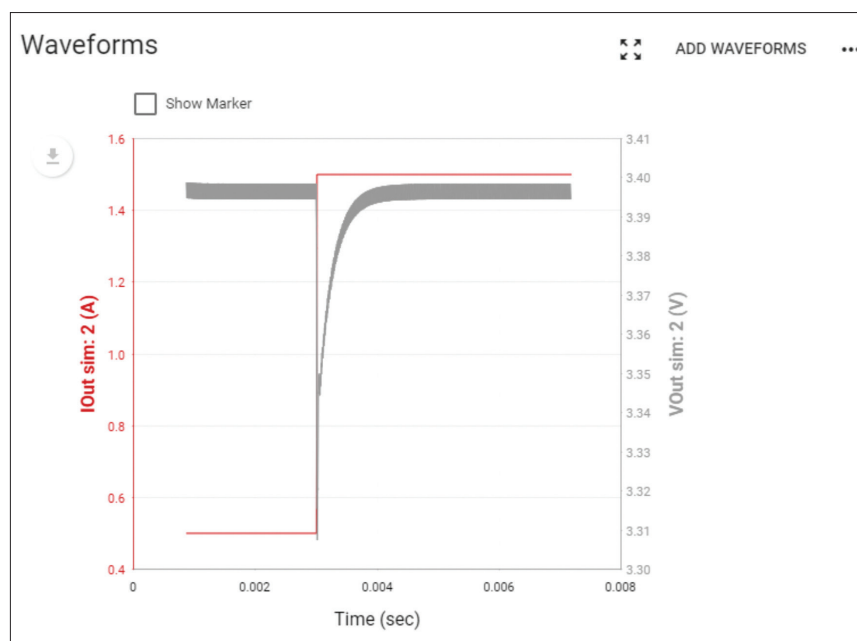

Figure 17.
8. After the end of simulation,  $V_{OUT}$  and  $I_{OUT}$  are plotted as shown in **Figure 17**. The performance summary pane which is below waveform shows maximum and minimum values of output voltage,  $V_{OUT}$  as shown in **Figure 18**. Calculate the difference between these two values and record it in **Table 2**.